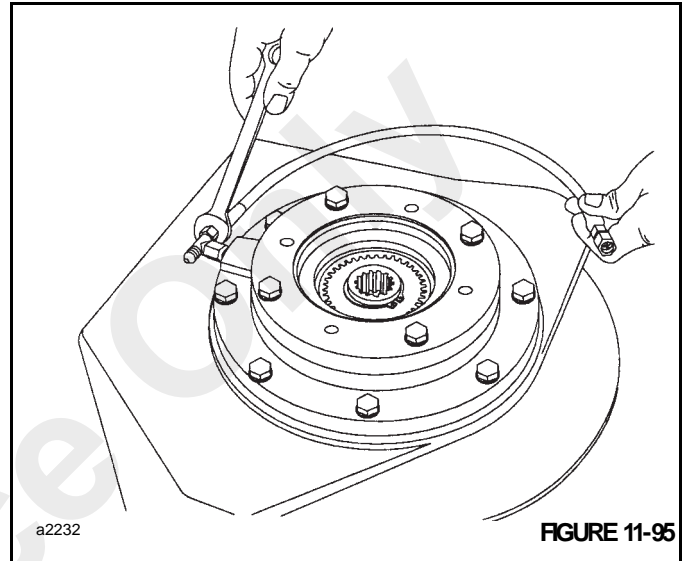

FIGURE 11-95
15. Install the hoses and fittings to the brake cylinder release port (Figure 11-95)